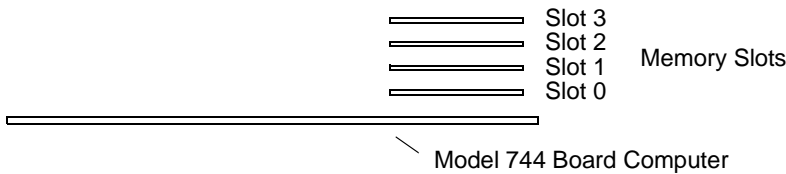

Figure 6-5 Model 744 Memory Slots
- 2 To determine the maximum current usage of the Model 744 memory cards, use Figure 6-5 and Table 6-3 (for Model 744/132L) or Table 6-4 (for Model 744/165L). **Note that some memory cards draw current from +12V on the Model 744/165L.** This is because +12 is converted to +5MEM for the 16MB, 32MB, and 64MB cards (see Figure 6-2). You must work with the worst case power draw to correctly determine power usage. Determine worst case power draw by examining active memory bank configurations, using the following steps: